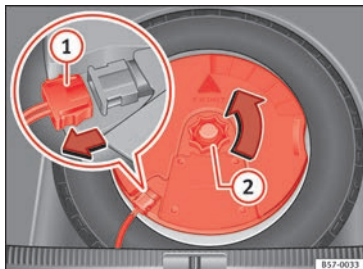

Fig. 249 In the luggage compartment: remove the *subwoofer*.
- Disconnect the *subwoofer's* speaker cable »» Fig. 249 ①.
- Turn the securing wheel in an anti-clockwise direction ②.